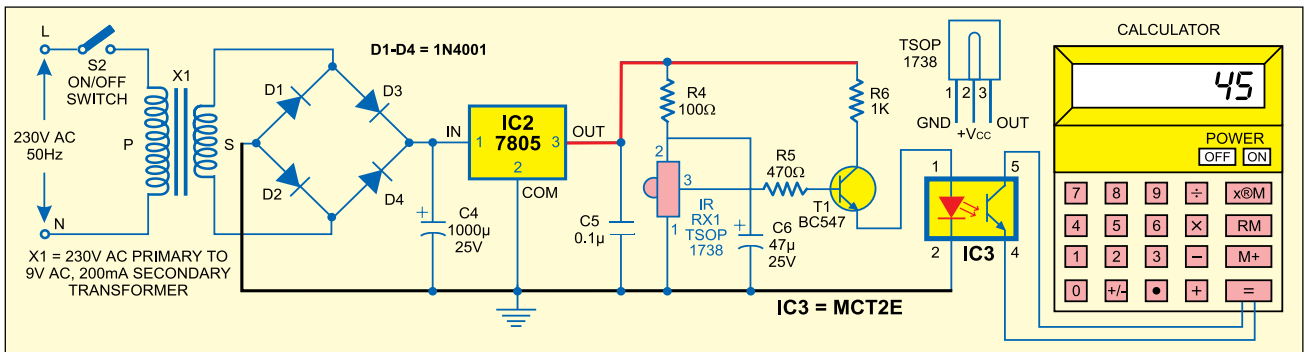

Fig. 2: Receiver-cum-counter circuit
of about 38 kHz, and two infrared light-emitting diodes (LEDs). The receiver circuit (see Fig. 2) is powered by a 5V regulated power supply built around transformer X1, bridge rectifier comprising diodes D1 through D4 and regulator IC2. It uses an infrared receiver (IR) module (RX1), optocoupler (IC3) and a simple calculator.